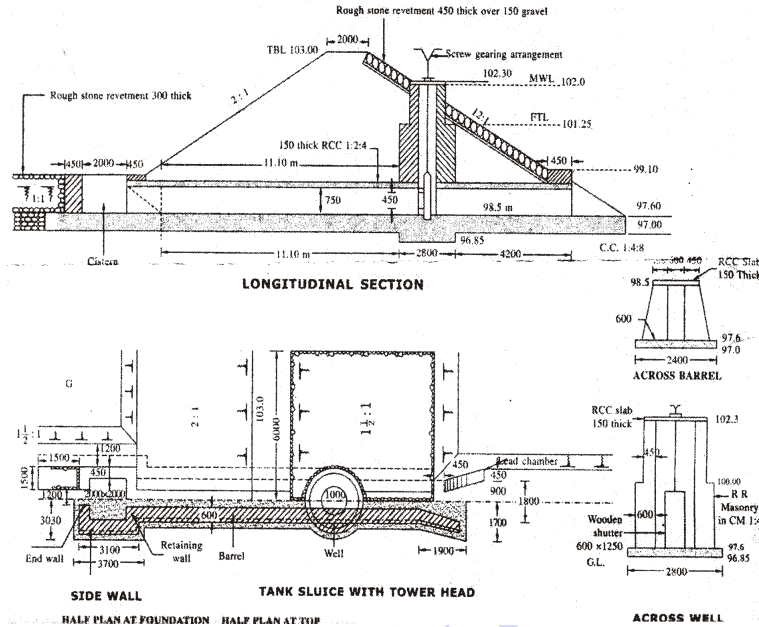

Fig. 8
18. Calculate the quantities of the following items of work for tank sluice with tower head as shown in Fig. 8 :